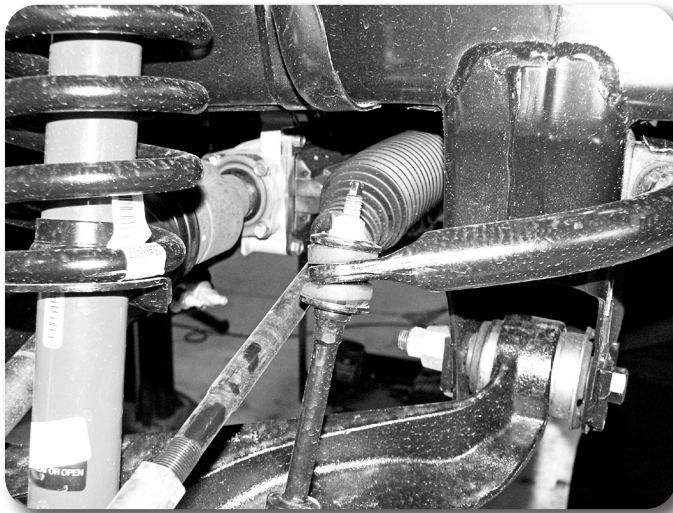

Figure 1
3. Remove sway bar nut from the sway bar links at the sway bar, remove bushings and cup washers. Fig 1